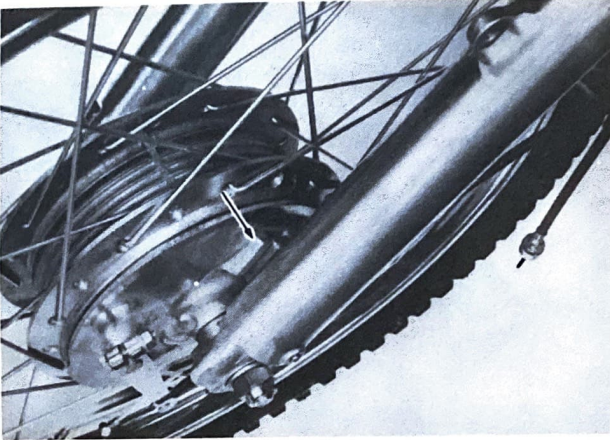

Fig. 11
7. a. Align the stopper (located in the bottom part of the front fork) with the shoe plate groove, and place the front wheel between the front forks. (Fig. 11)